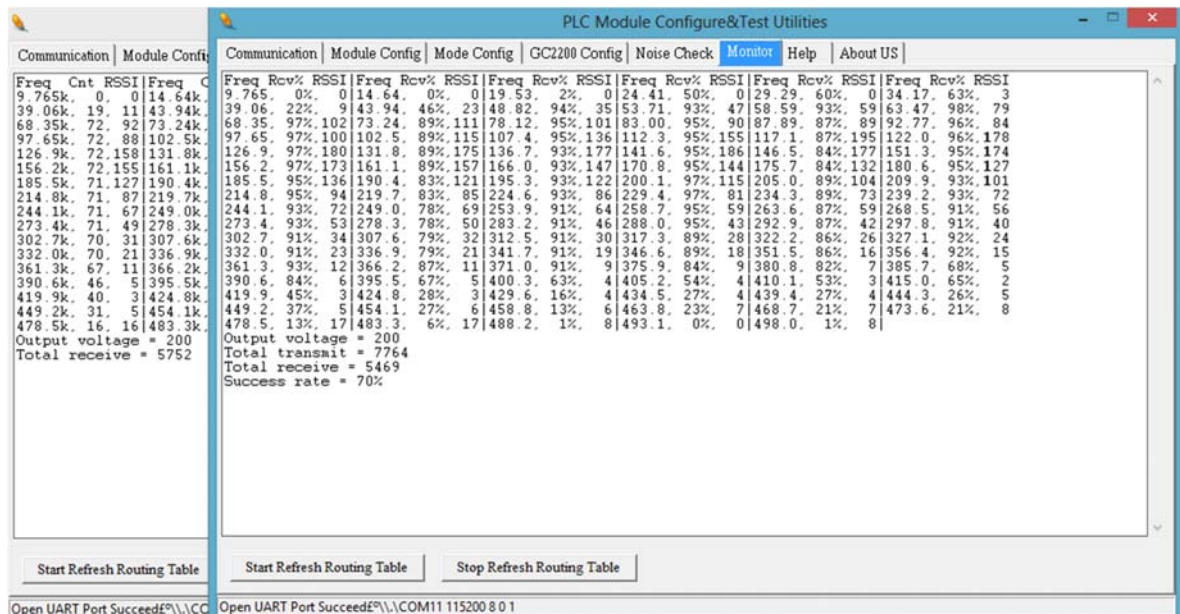

Figure 8 – Frequencies versus RSSI Values
- a) **Frequency vs RSSI:** When "Scan Frequency" is selected under "Operation Mode Configuration" under "Mode Config" tab, for a pair of nodes (configured as Master and Slave) in communications, the GUI will scan across the entire frequency range between the two nodes and display the corresponding RSSI (Received Signal Strength Indicator) values (between 0 to 256 with 256 being the best signal strength). Under "Monitor" tab, "Freq" shows the carrier frequency in KHz, "Rcv%" shows the percentage of packets received over packets transmitted and "RSSI" shows the Received Signal Strength Indicator values of the particular frequency. The RSSI and Rcv% may be used to determine the best frequencies for communications. In general, the higher the RSSI value, the higher the chance of successful communications. However, as shown in Figure 8, there are instances where low RSSI values correspond with higher success rates. This is possible if there are less noise or interference over these frequencies. At the bottom of the table, the "Output voltage" shows the value of "Outpower" of GC2200 Config, the "Total transmit" shows the total packets transmitted, the "Total receive" shows the total packets received and the "Success rate" shows the percentage of received over total transmitted packets. Note "Total transmit" and "Success rate" only appear on the Master node table. The GUI for the Slave node is not required to be used in order to perform this function.